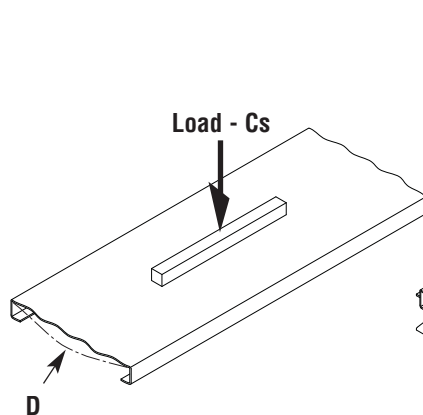
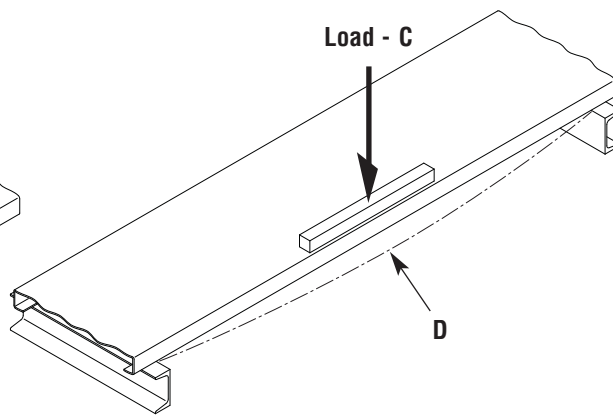

Figure 2a Strut Load
Figure 2b Concentrated Load
Values tabulated in the rows labeled "C" are the lowest of the (1) maximum allowable concentrated load considering side channel flexure (with one side channel supporting the entire load — Figure 2b, and (2) the maximum allowable strut flexure (Figure 2a).